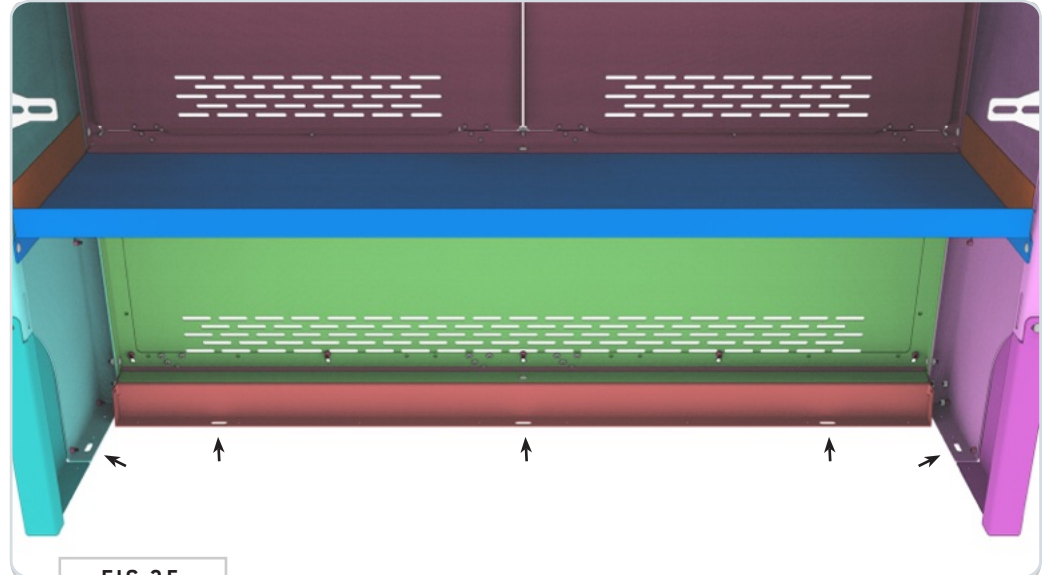

FIG 35
**6.2 Attach Cabinets to Van Floor (optional):** See available mounting slots in the bottom of the **Left and Right Side Cabinet Ends** and **Toe Kick** in FIG 35. If desired, mark your preferred locations for mounting to the floor and drill out using a **5/16"** Drill Bit. Mount using hardware.